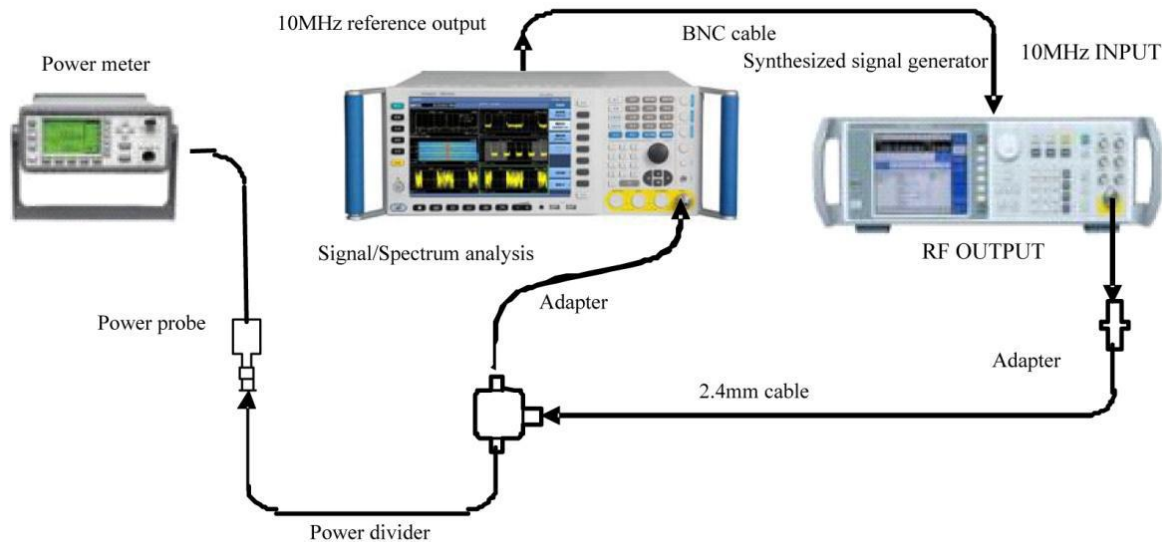

Fig. 8.9 Schematic diagram of frequency response test (50 MHz ~ 50 GHz)
- 1) Connect the tested instrument as shown in Fig. 8.9.